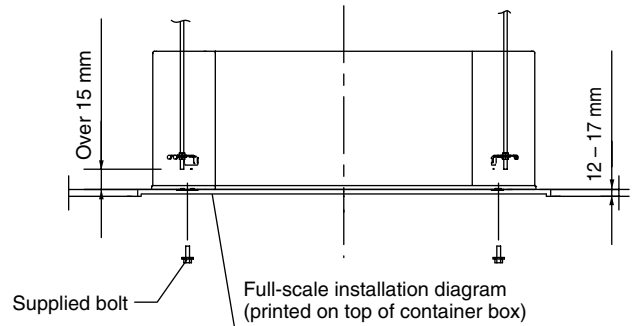

Fig. 3-4
- When placing the unit inside the ceiling, determine the pitch of the suspension bolts using the supplied full-scale installation diagram. (Fig. 3-4)
- The length of suspension bolts must be appropriate for a distance between the bottom of the bolt and the bottom of the unit of more than 15 mm. (Fig. 3-4)